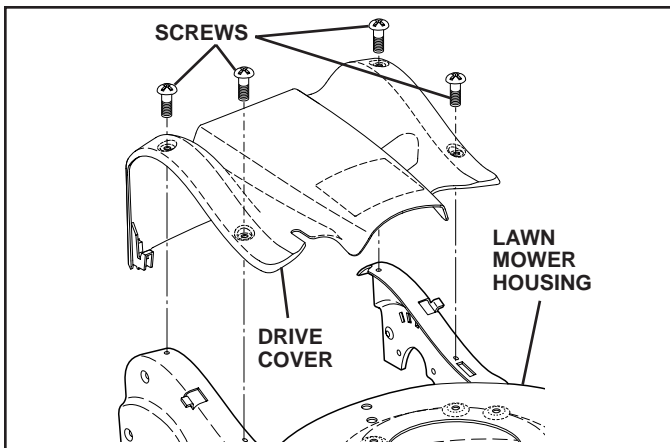

FIG. 17
TO REMOVE DRIVE BELT (See Figs. 17–20)
2. Remove screws retaining drive cover and remove drive cover from lawn mower housing (See Fig. 17).
TO REPLACE DRIVE BELT (See Figs. 17–20)
11. Reattach drive cover with screws previously removed (See Fig. 17).